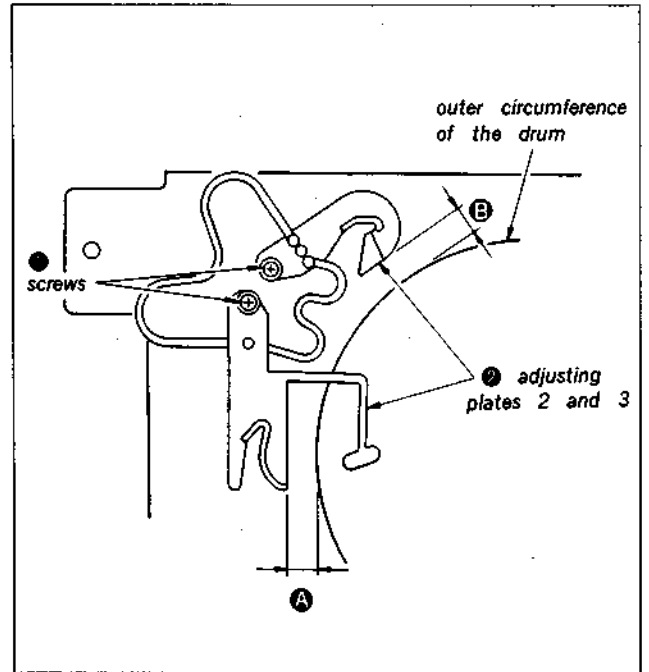

Fig. 3-5. Measurement of the position of adjusting plates 2 and 3
- 3) Remove the two screws **1** shown in Fig. 3-5, then remove the adjusting plates 2 and 3 **2**.